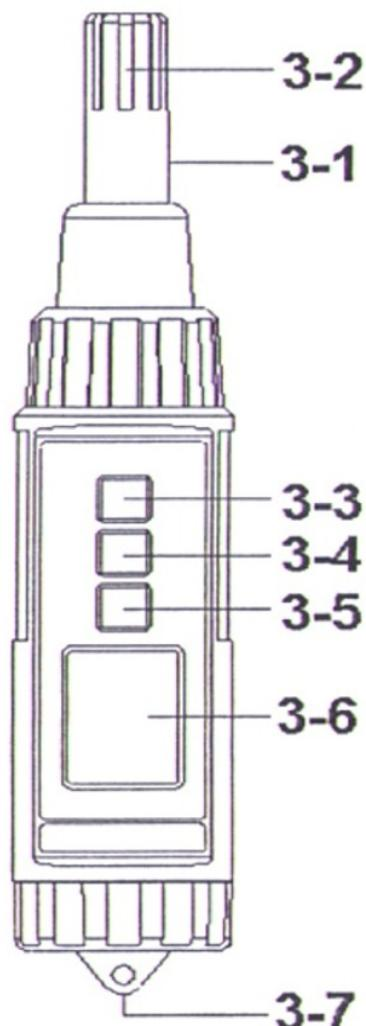

Fig. 1
- 1) Turn on the meter by pressing the " Power Button " ( 3-3, Fig. 1 ) momentarily.
*\* Pressing the " Power Button " ( 3-3, Fig. 1 ) momentarily again will turn off the meter.*
Pressing the " Mode Button " ( 3-5, Fig. 1 ) continuously ( not release the button ), the Display will show the following 4 kind screens in sequence :
Until the Display show the desired model ( Function ), just release the " Mode Button " ( 3-5, Fig. 1 ), the meter will execute this function with default.
- 2) Turn on the meter by pressing the " Power Button " ( 3-3, Fig. 1 ) momentarily.
- 3) Under the Barometer mode, ressing the " Unit Button " ( 3-4, Fig. 1 ) continuously ( not release the button ), the upper Display will show the following indicator in sequence :
Until the Display show the desired unit, just release the " Unit Button " ( 3-4, Fig. 1 ), the meter will execute this measuring unit with default.
- 2) Use one finger to press ( not release ) the " Hold Button " ( 3-4, Fig. 1 ), turn on the meter by pressing the " Power Button " ( 3-3, Fig. 1 ) momentarily, until the temperature unit ( °C, °F ) of Display is lit, then release the " Hold Button " will change the Temp. unit from °C to °F or °F to °C with default.
- \* During the measurement, press the " Hold Button " ( 3-4, Fig. 1 ) momentarily to hold the measured value. The LCD will show a " HOLD " symbol.
- 1) The data record function records the maximum and minimum readings. Press the " REC Button " ( 3-5, Fig. 1 ) momentarily to start the Data Record function, shows " REC " on the display.
- a) Press the " REC Button " ( 3-5, Fig. 1 ) momentarily, the " REC MAX " symbol along with the maximum value will appear on the display.
- b) Press the " REC Button " ( 3-5, Fig. 1 ) momentarily again, the " REC MIN " symbol along with the minimum value will appear on the display.
*\* When display shows " REC MAX " or " REC MIN ", press the " Hold Button " ( 3-4, Fig. 1 ) momentarily will delete the max. ( min. ) value, the display will show the " REC. " only and execute the memory function continuously.*
- 2) To de-activate this feature, Select the memory record function during measurement, by pressing the " REC Button " ( 3-5, Fig. 1 ).
- \* To change the batteries, open ( rotate clockwise direction ) the " Battery Cover " ( 3-7, Fig. 1 ).
- \* Make sure the " Battery cover " (3-7, Fig 1) is secured after changing the batteries.